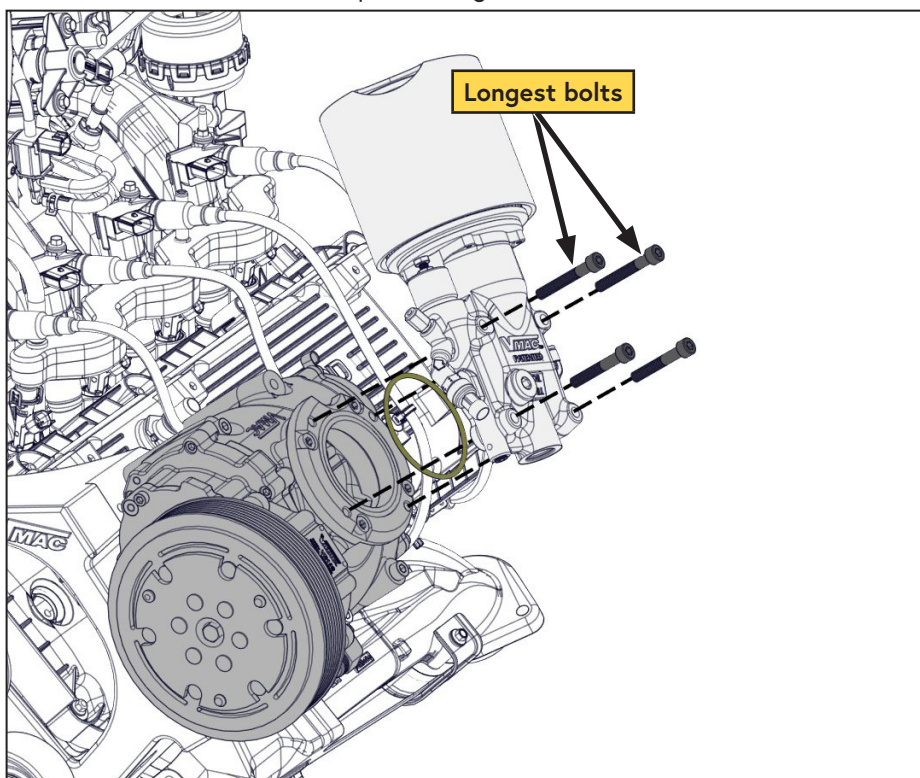

Figure 21 — Install inlet
- ☐ Remove the protective covering, place the Viton O-ring in the inlet adapter, and install the inlet onto the compressor (Figure 21).